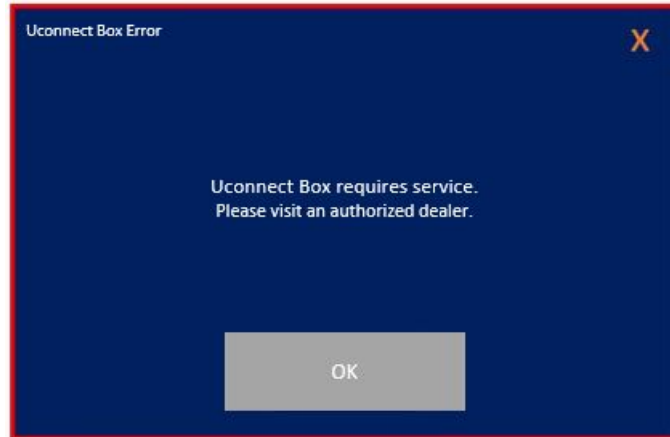

Fig. 1
- ****Message displayed on the radio screen, "Uconnect Box requires service. Please visit an authorized dealer." (Fig. 1) , with no active or stored Diagnostic Trouble Codes (DTCs) set by TBM or Occupant Restraint Controller (ORC).**